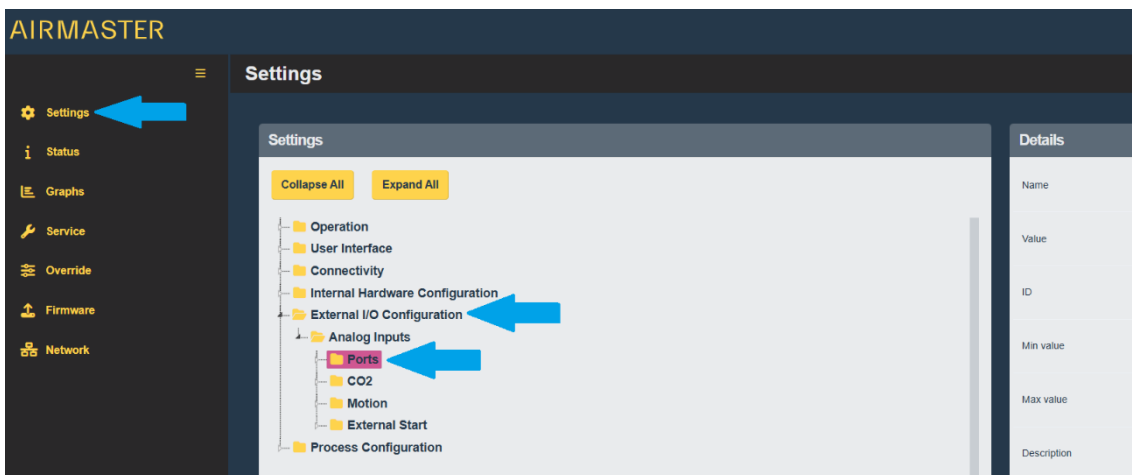

Figure 27: Ports menu
1. Click on "Settings" in the left-hand menu, then click "External I/O Configuration" in the drop-down list. Next, click on "Analog Inputs" and "Ports", see Figure 27 below: